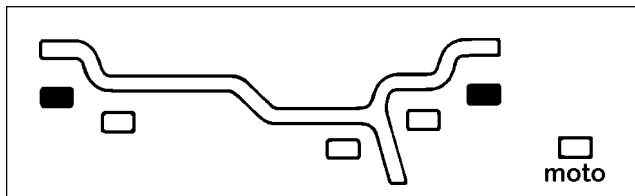

Fig. 47
**A. DYNAMIC** (two planes), suggested for all steel rims. In this case the wheel weights must be clipped onto the rim edges. This function is selected as a default and the LEDs corresponding to the wheel weight location are lit on (Fig.47).